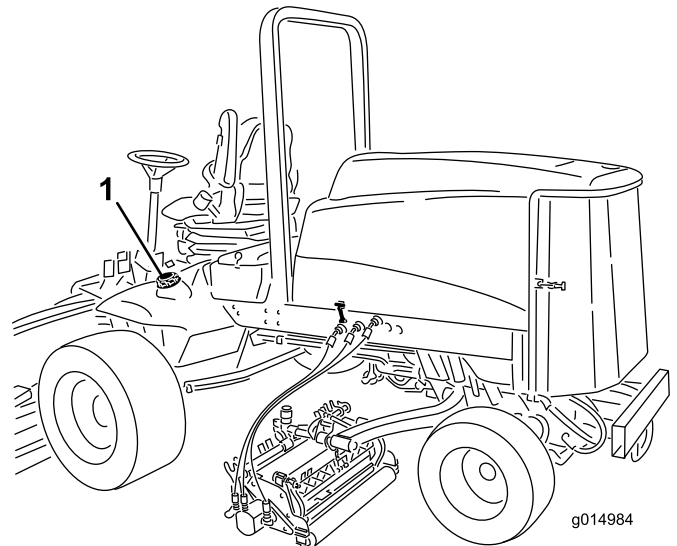

Figure 35
1. Remove the fuel tank cap (Figure 35).